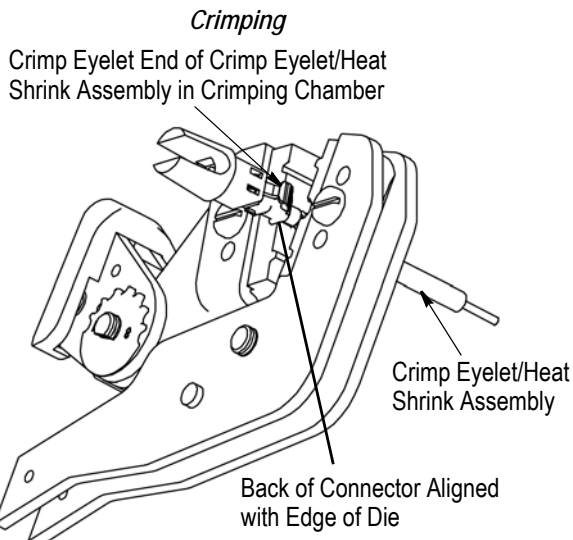

Figure 7
4. Place the crimp eyelet end of the crimp eyelet/heat shrink assembly into the crimping chamber of the die assembly. Align the back of the connector with the edge of the die as shown in Figure 7.